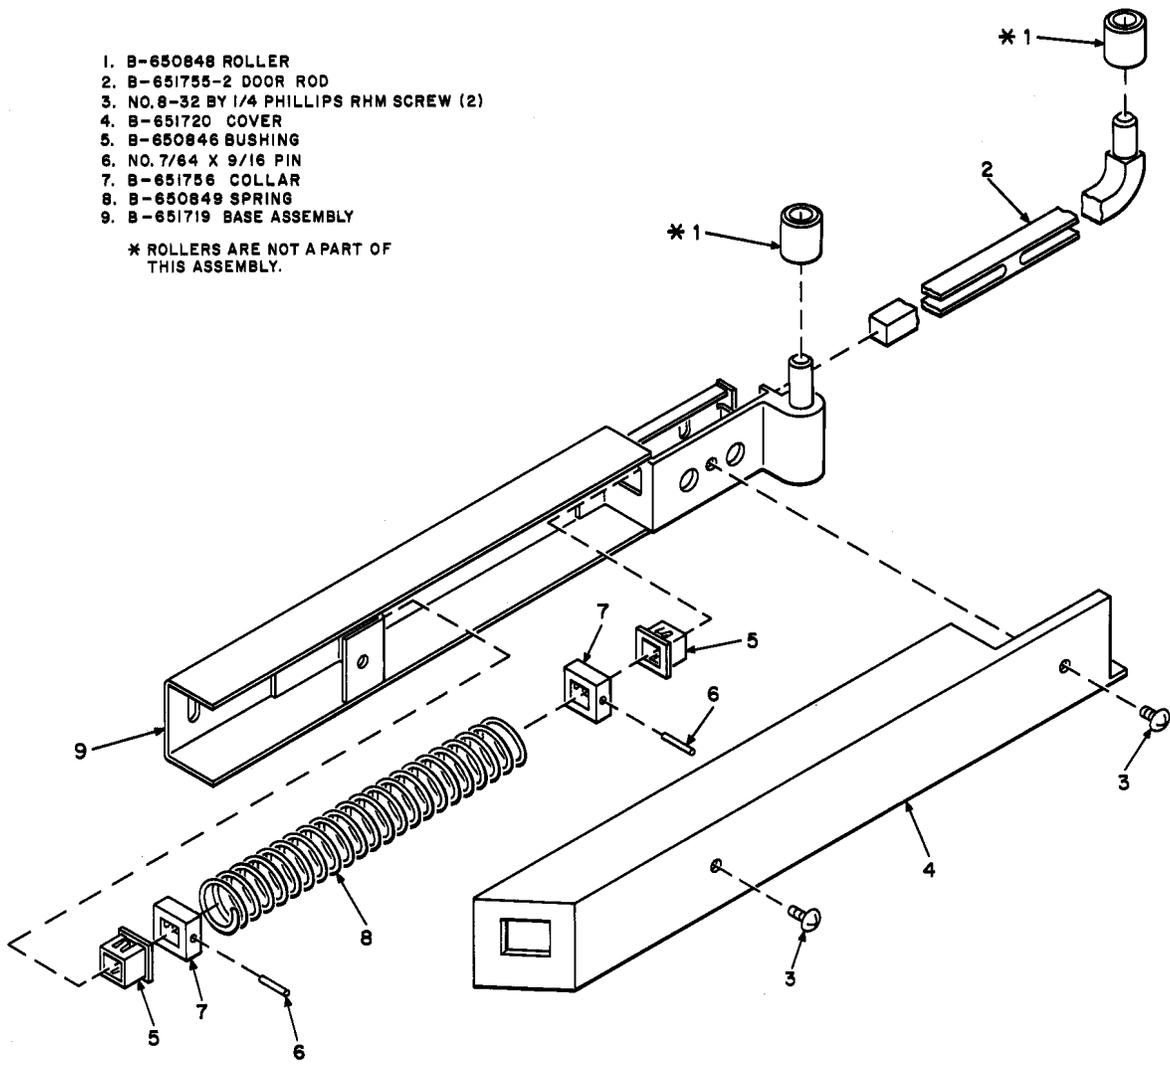

Fig. 4—B-651721-2 Door Guide Assembly
**15.04** Fig. 4 shows the B-651721-2 door guide assembly which is a replacement for the older B-650843 assembly. All new KS-19580 booths are equipped with the new assembly. All early model KS-19580 booths should have the old assemblies replaced with the new B-651721-2 door guide assembly. Use three No. 8 by 1/2 Phillips RH self tapping screws to secure assembly to door frame.